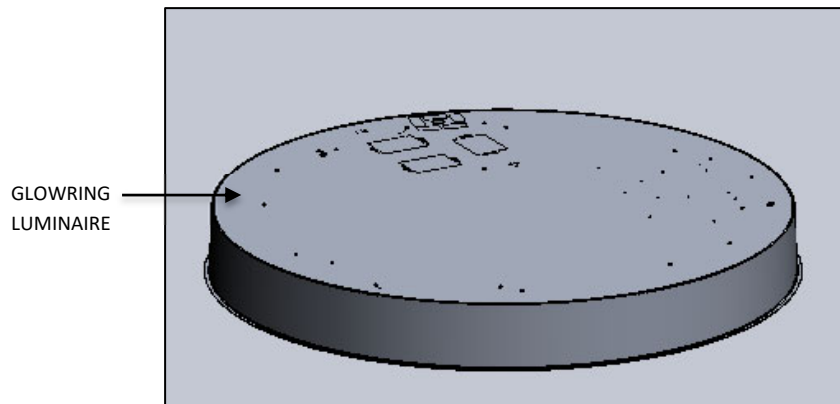

FIG.2 GLOWRING LUMINAIRE (PRE-ASSEMBLED)
1. GLOWRING LUMINAIRE. (Pre-assembled as shown in FIG. 2)